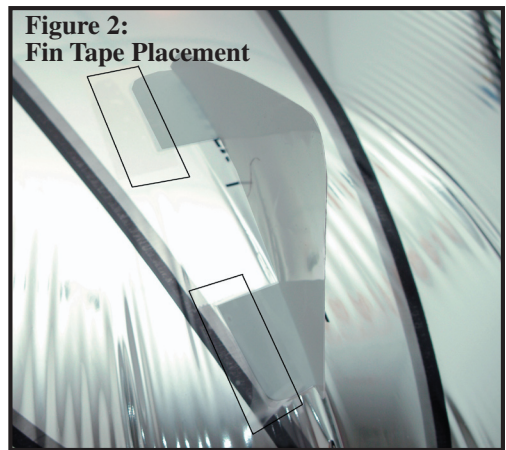

Figure 2:
The MegaBlimp comes with four (4) plastic tail fins. Peel the protective covering from the double sided tape on the fin and place it on the rear of the blimp (the thinner end) directly over the four spots marked "Center Fin Here". Make sure the fin tabs are bent at a 90-degree or right angle. For further attachment insurance, follow up with Scotch® transparent tape along the fin tabs (Figure 2.) Note: Make sure the